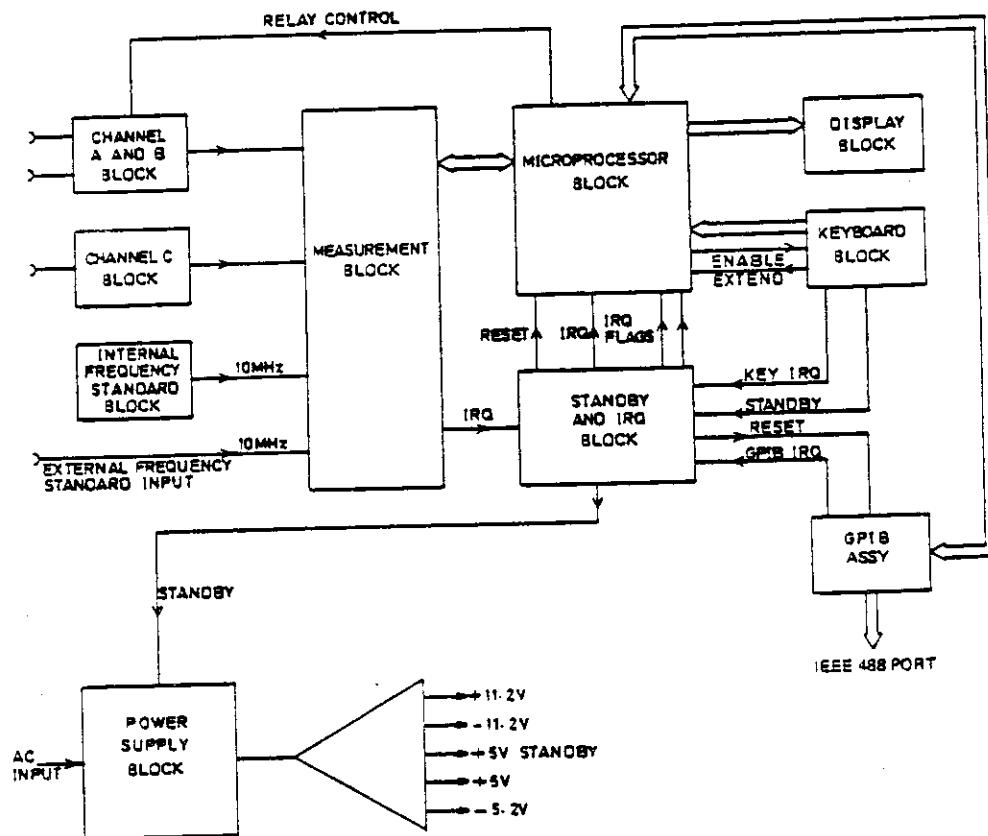

Figure 5.1 - Simplified Overall Block Diagram
**5.1.2**       The theory of operation provided is based on the simplified overall block diagram shown in Figure 5.1. Key circuit blocks of the 1991/1992 are described and supported in this section using simplified block and schematic diagrams. These diagrams supplement the complete schematics found in Section 7 of this manual. As much as possible, the simplified schematic and block diagrams provided here use the same reference designators found in the complete schematics. This should facilitate cross-referencing between this section of the manual and the schematics.
**5.2.2**       The functional relationship between the blocks of the 1991/1992 is illustrated in Figure 5.1. The measurement block is internally configured by the microprocessor according to the instructions entered via the keyboard or over the GPIB. The signal to be measured and the signal from the frequency standard are fed to the measurement block. The measured result is passed to the microprocessor. If mathematical manipulation of the result is required, this is performed by the